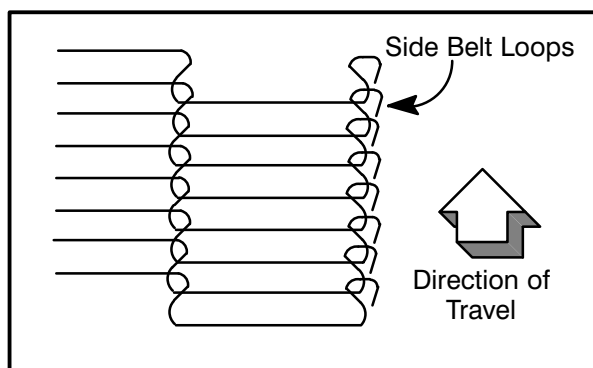

FIGURE 4
**NOTE:** The conveyor belt has loops on all four sides. The belt must be installed so the loops travel as shown in FIGURE 4.